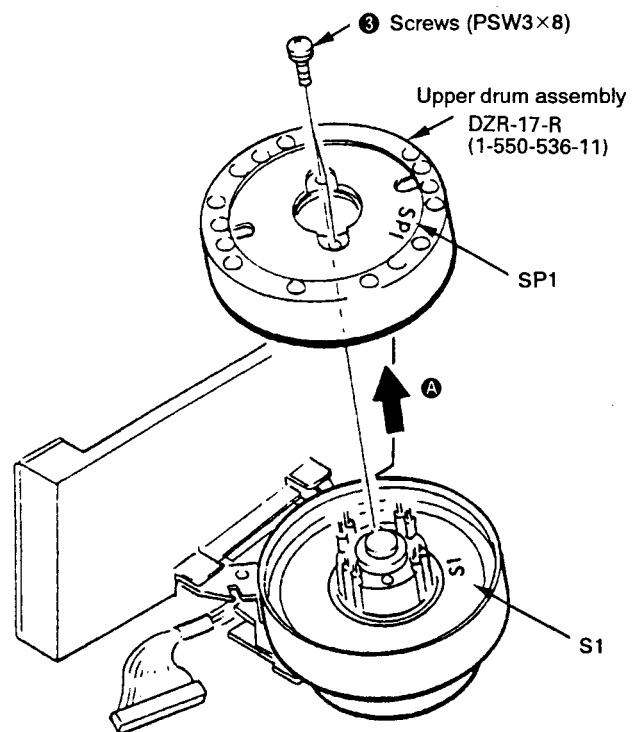

Fig. 5.
- 3) Remove two screws ❸ (PSW3×8) and take out the rotary upper drum in the arrow direction ➤. (See Fig. 5.)
- 2) Mount the rotary upper drum board by aligning SP1 with S1 of rotary transformer board (lower drum) so that the screw holes of both upper and lower drums match. (See Fig. 5.)
- 4) Tighten two screws ❸ (PSW3×8). (See Fig. 5.)